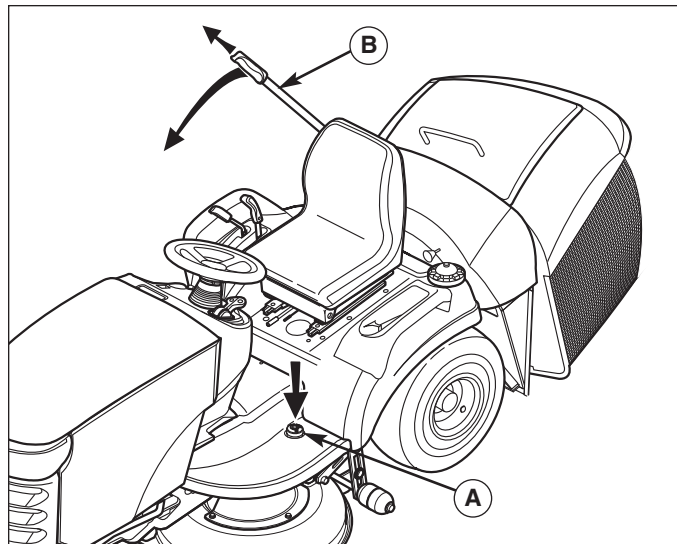

Figure 4. Emptying the Hopper
1. Depress the catcher dump pedal (A, Figure 4).
2. Extend the catcher lever (B) and use it to empty the catcher.
3. Use the lever (B) to close the catcher, and slide it back into the catcher.